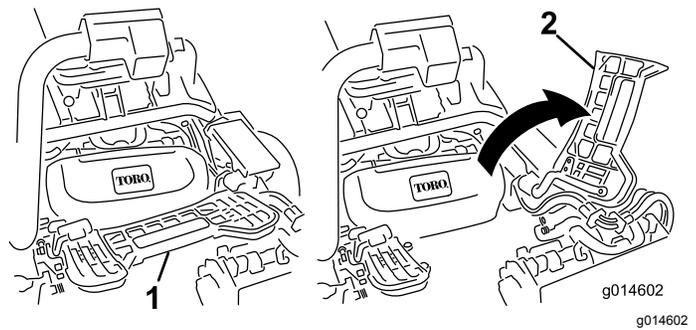

Figure 47
2. Lift up on the foot rest and swing it open, allowing access to the center cutting unit position (Figure 47).